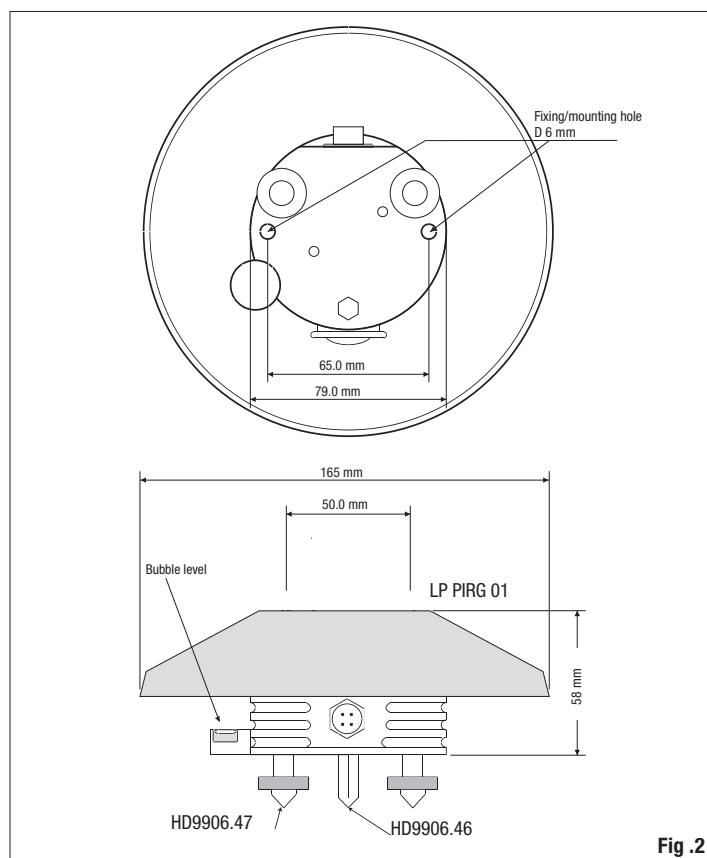

Fig. 2
- For an accurate horizontal positioning, the pyrgeometer LP PIRG 01 is equipped with a spirit level, which adjustment is by two screws with lock nut that allows changing the pyrgeometer inclination. The fixing on a flat base can be performed by using two 6mm diam. holes and 65 mm wheelbase. In order to access the holes, remove the screen and re-place it back after mounting, see figure 2.
Dimensions:	figure 2